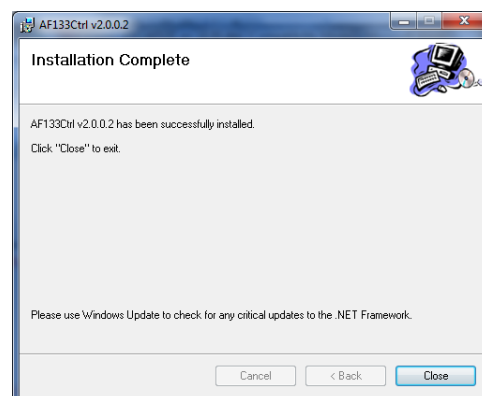

Figure 5
4. Complete the software installation by selecting the "Close" button (Figure 5).